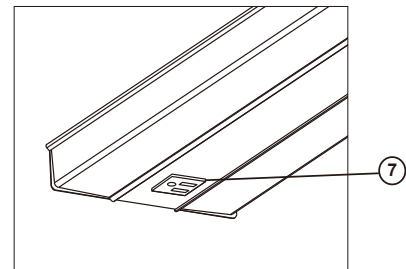

Figure 3
9. For multiple units- fixtures can be inter-connected by plugging next unit's power cord into the previous fixture's convenience outlet. -See Fig. 3